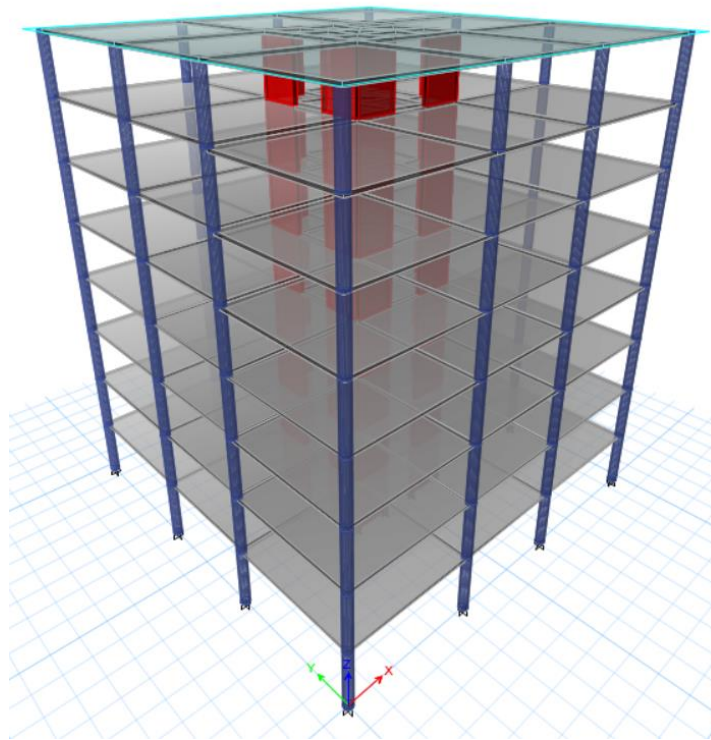

Figure 1 RC Structure as Modeled in ETABS
The figure shown below (**FIGURE 1**) is an eight-story reinforced concrete structure which includes columns, shearwalls, and conventional-reinforced concrete (RC) slabs. This model and resulting forces, applied loads, etc. will be exported to ADAPT-Builder.